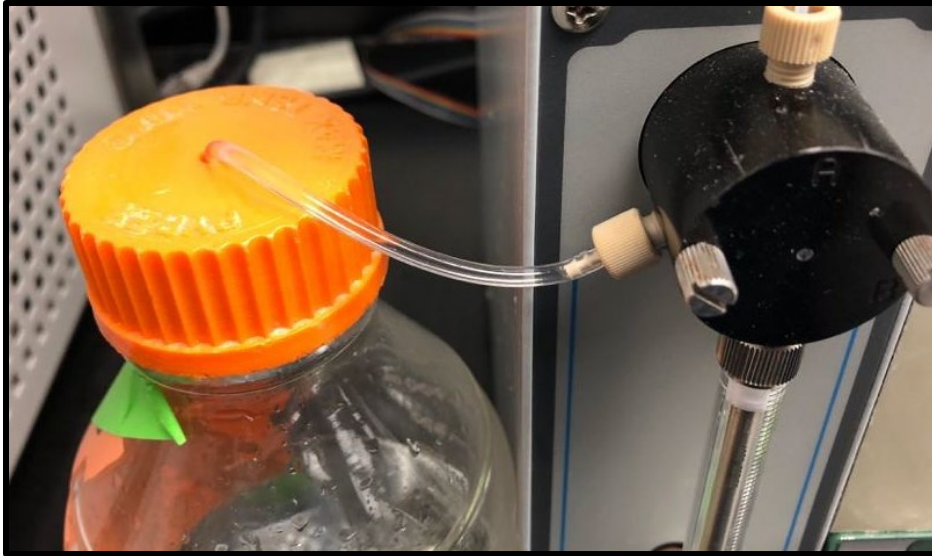

Figure 6. Small hose on left will be placed in DIC acid container.
7. Take the large hose to the left and place in DIC acid container. There should be a cap with a hole in the top, place hose through. Use the cap without the hole when system is not in use to prevent evaporation (Figure 6).